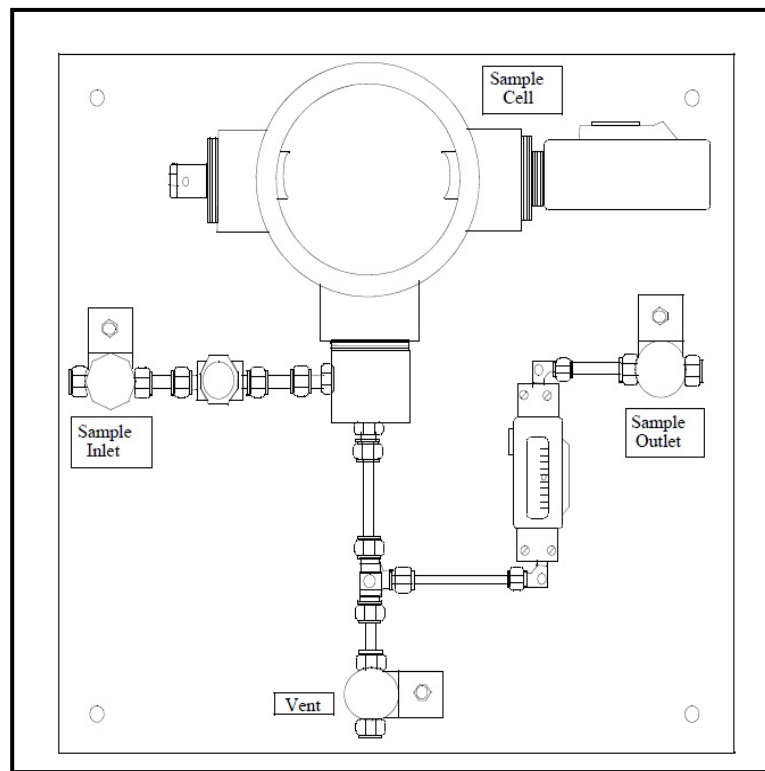

Figure 77: Typical Moisture Sample System
- Typically, sample systems should be kept very simple. They should contain as few components as possible and all or most of those components should be located downstream of the measurement probe. *Figure 77* on the next page shows an example of a simple sample system consisting of an explosion-proof housing with a sample cell, a filter, a flow meter, a vent valve and two shut off valves, one at the inlet and one at the outlet.